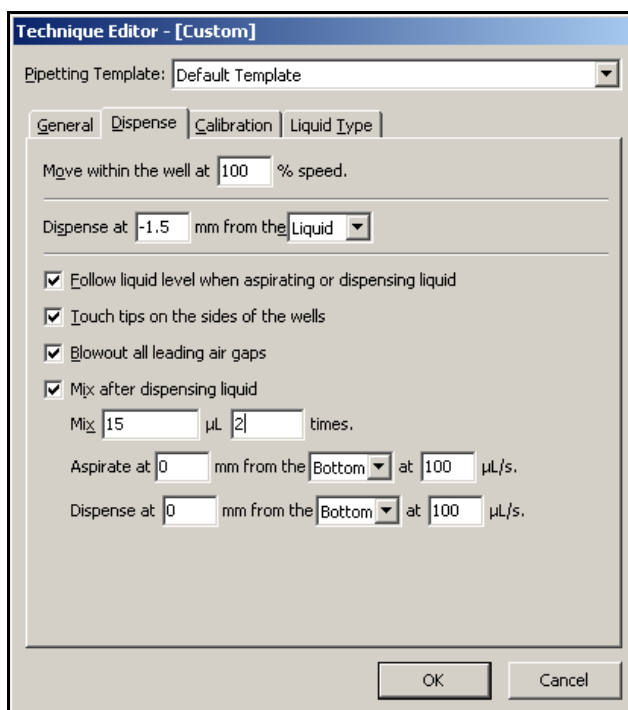

Figure 2-6. Configured mix in a Custom technique
3. In time, enter **2**. (After configuration, time changes to times.) This specifies the number of times you want to mix the liquid after dispensing. You're finished configuring the mix after dispensing process. The Technique Editor should now look like Figure 2-6.